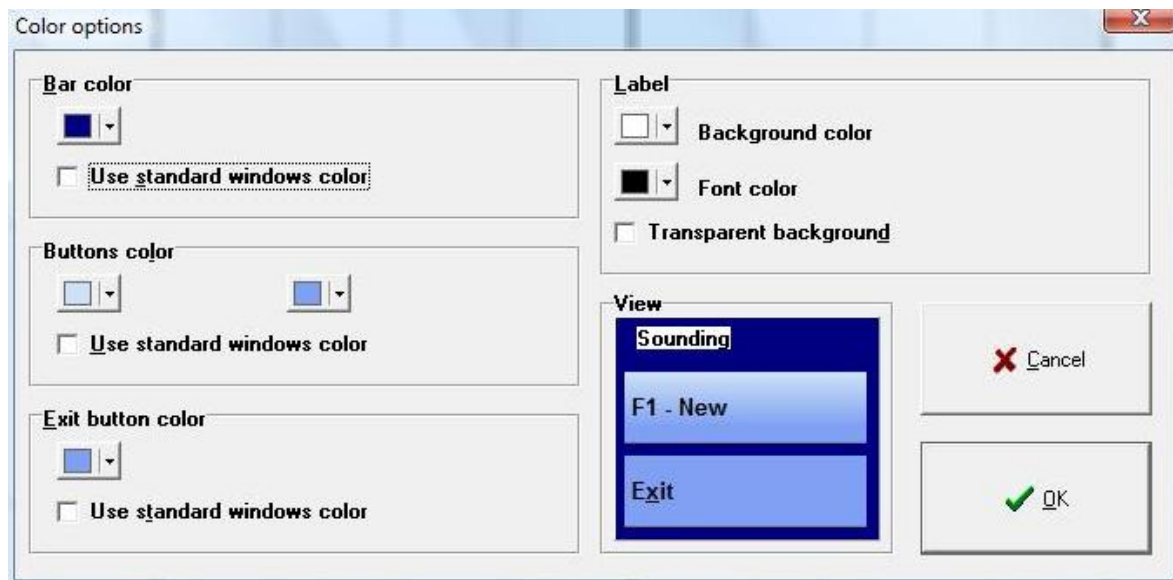

Fig. 3-9: Color Options, Press Shift+Ctrl+F4
7. The colour settings on the screen can be changed (Fig. 3-9)